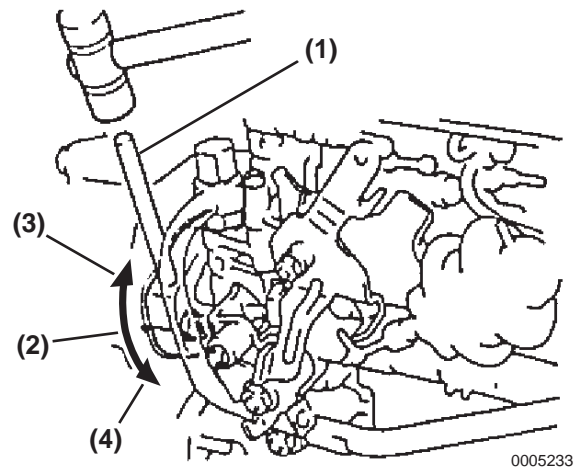

Figure 5-232
2. Slightly incline the injection pump to adjust the plunger stroke. If the stroke is less than the specification, incline the pump towards the engine (**Figure 5-232**). If it is greater than the specification, incline the pump away from the engine.